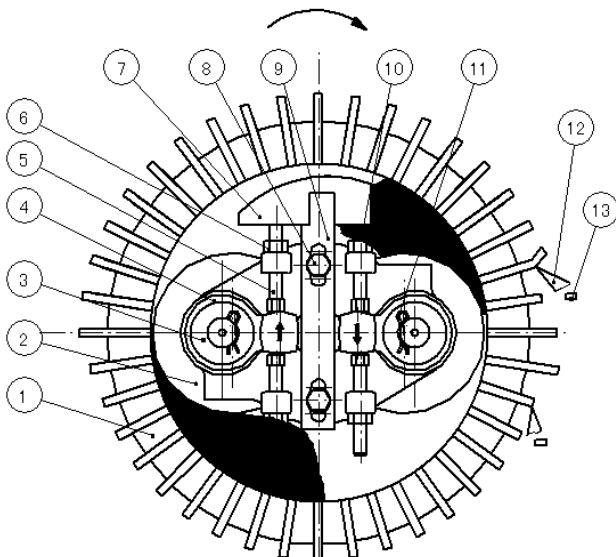

Figure 11 PELLET CHAMBER WORKING PRINCIPLE
4.1.5 Steam should be injected in when the machine is working. See Figure 11 and Table 2 for the steam piping system. The steam is generated by the boiler. 2" galvanized pipe can be used as the steam pipe connecting with the conditioner. Moisture separator should be installed in the steam piping line to prevent the condensate from entering the conditioner. Relief valve must be installed to ensure that the steam pressure is not too high but stable. Steam is required to be supersaturated and with high temperature and less moisture content.
4.2 Adjustment of die-roller clearance (see Figure 11)